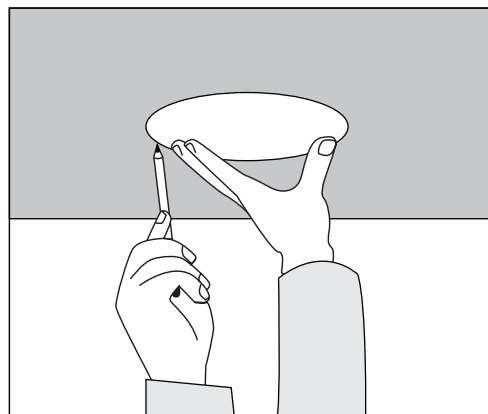

Figure 1
3. Place the included mounting template onto the wall or ceiling in your preferred location. Use the pencil to trace around the template (Figure 1).